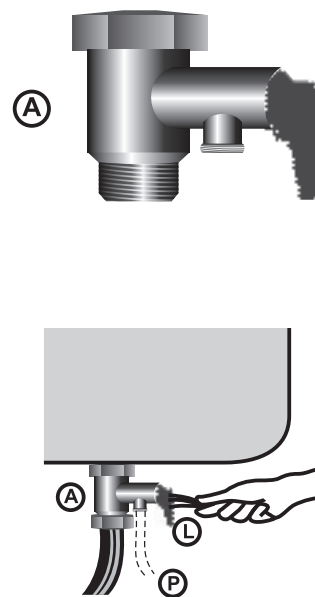

Fig. 2
8. In case of water dripping from safety valve, please put drain pipe (as shown in Fig.2).